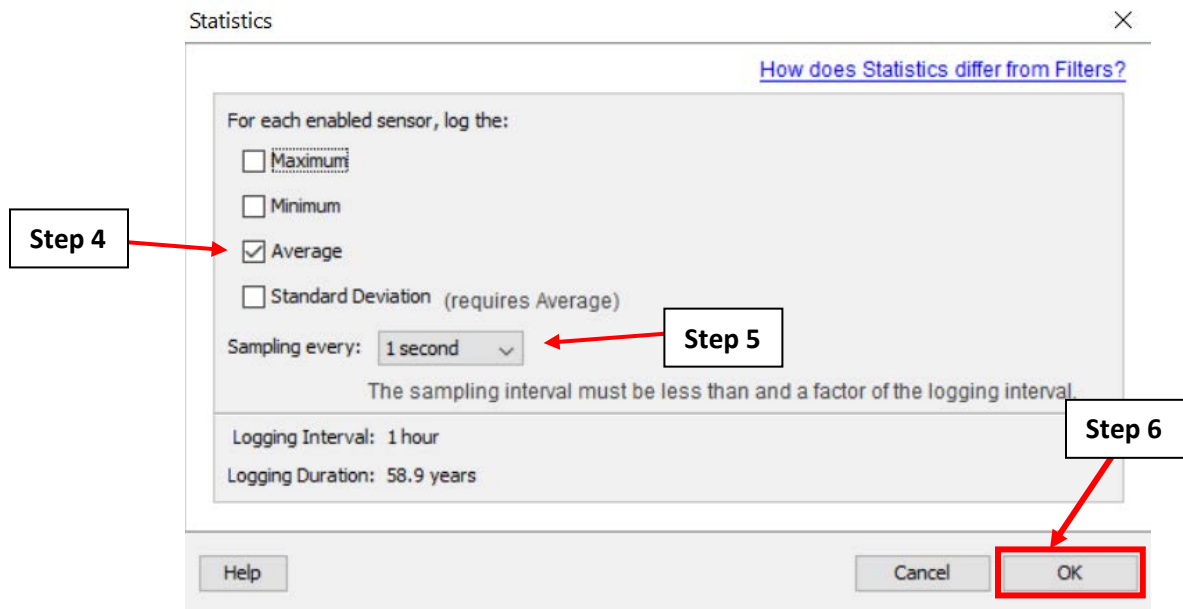

Figure A.4.7: Setting the sampling rate in the Statistics pop-up window.
4. Following Figure A.4.7, select the checkbox labeled “Average” and uncheck the other boxes.